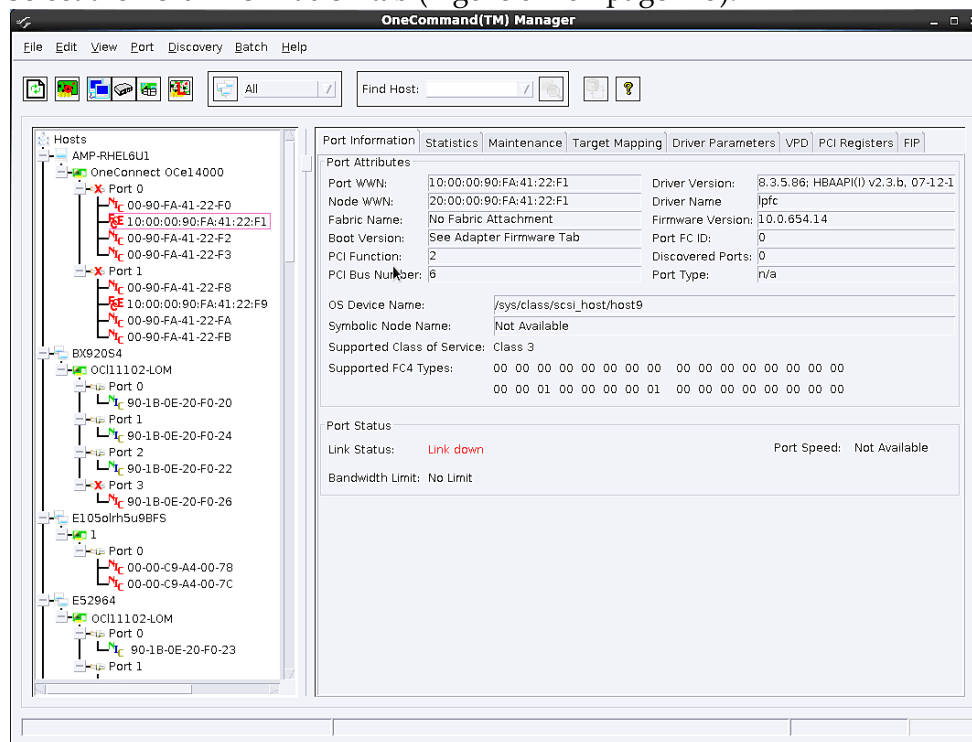

Figure 8-7 FCoE Port Information Tab
When you select an FCoE function from the discovery-tree, the Port Information tab (Figure 8-7 on page 125) contains general attributes associated with the selected FCoE port.
3. Select the **Port Information** tab (Figure 8-7 on page 125).